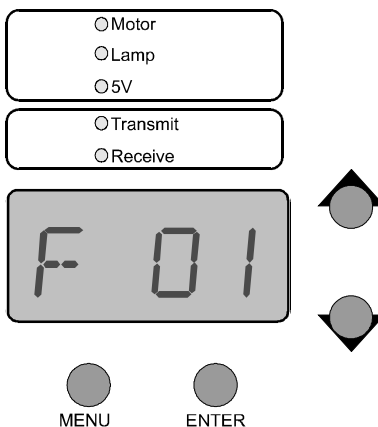

Figure 1.11 Using the Front Panel
2. Observe the display on the front of the fixture. Initially, it will display `SPOT`, the software version (`v xxx`), and then the fixture number (`F 01`). Refer to Figure 1.11.